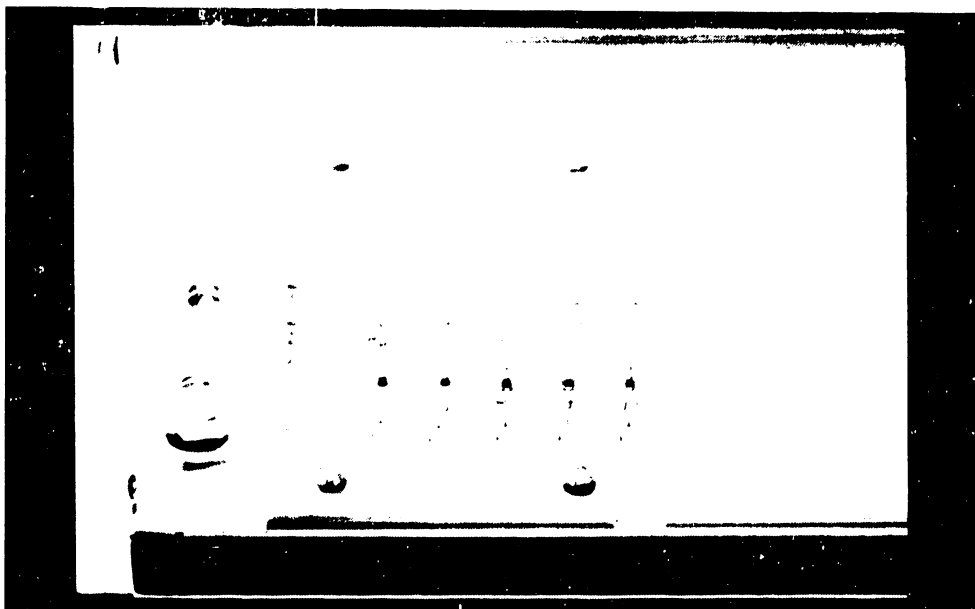

Figure 5-36. Motherboard Voltage Test Points
5. Using a digital voltmeter, check the voltages at the Motherboard test points (figure 5-36).